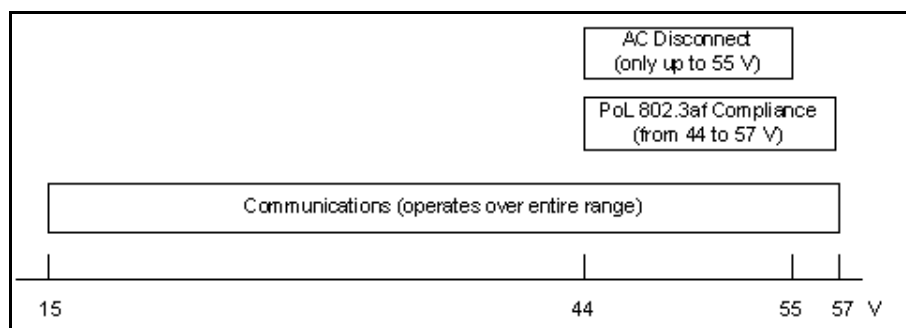

Figure 1: Operational Ranges
1. Operating functions depend on the input voltage, as shown in Figure 1. 2. In order to get higher power drive at the PSE output ports, it is recommended to use operating voltage source Vmain > 50v